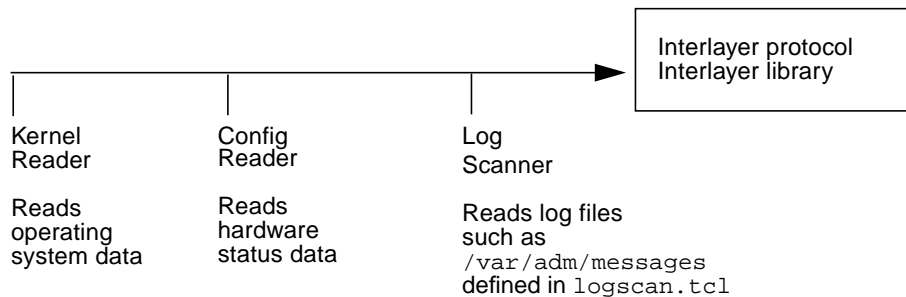

FIGURE 1-2 Server Subsystem Agents
- **Server subsystem**—The server subsystem consists of a set of *server agents* on the monitored server, the Kernel Reader, Config Reader, and Log Scanner (see FIGURE 1-2 on page 4). The agents continuously monitor the hardware status of the server.
The server subsystem consists of four agents (see FIGURE 1-2):